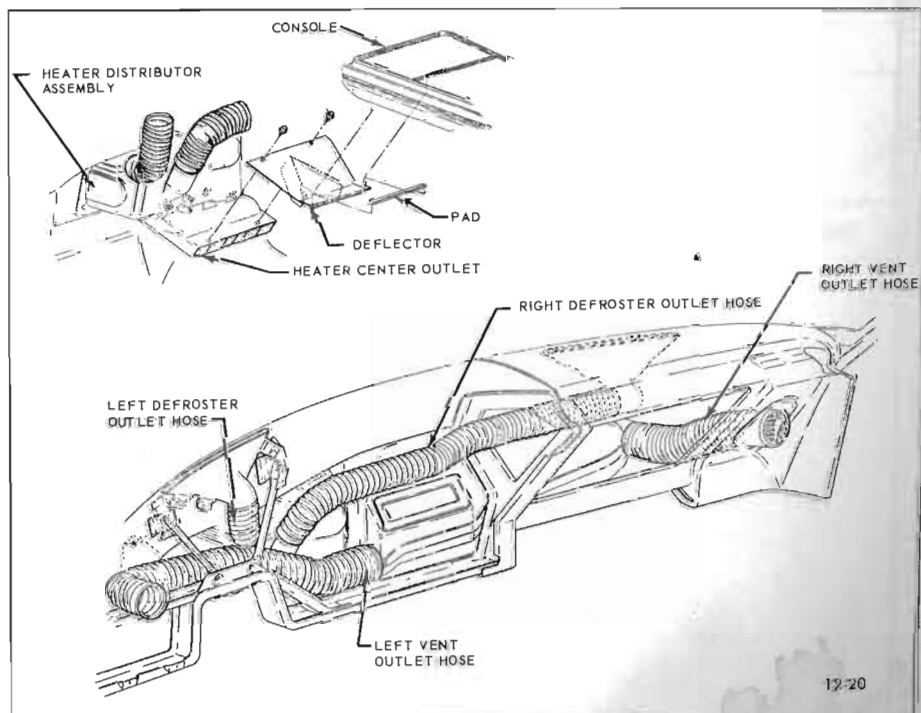

Figure 12-20—Installation of Hoses - 49000 Series
2. Disconnect left vent outlet hose and both defroster hoses from vent distribution duct and heater distributor assembly (see Figure 12-20).
1. Disconnect both left and right vent outlet hoses (see Figure 12-20).